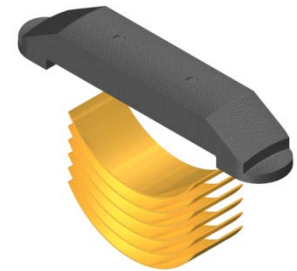

Fig. 2
**NOTE2:** Uses six (6 ea) springs per drag block (Fig. 2).